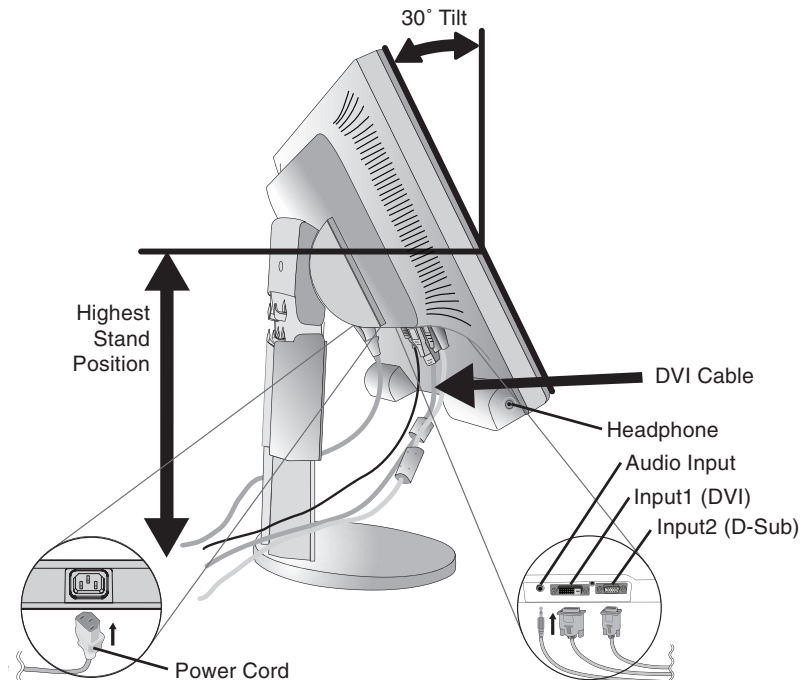

Figure C.1
3. Place hands on each side of the monitor to tilt the LCD panel 30-degree angle and lift up to the highest position (**Figure C.1**).
4. Connect all cables to the appropriate connectors (**Figure C.1**). Connect the Headphone (not included) to the appropriate connector at the left side of the monitor (**Figure C.1**).